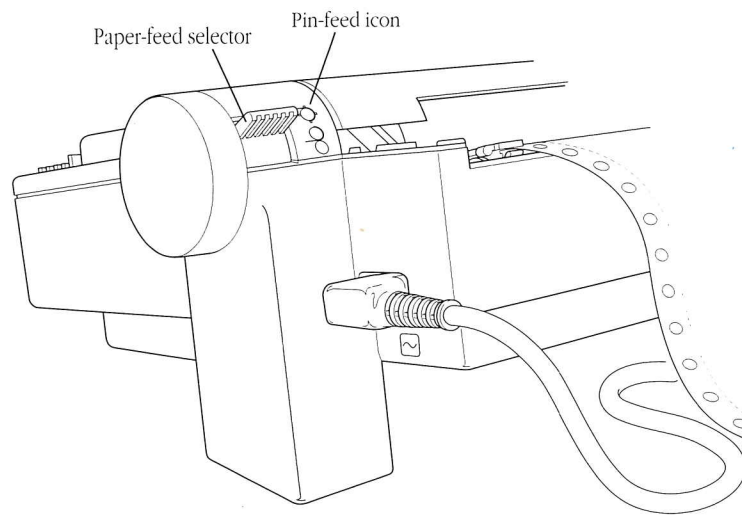

Figure 2-16 Paper feed selector set for pin feed
12. Set the paper feed selector (located next to the platen knob) to the up position for pin feed. (See Figure 2-16.)